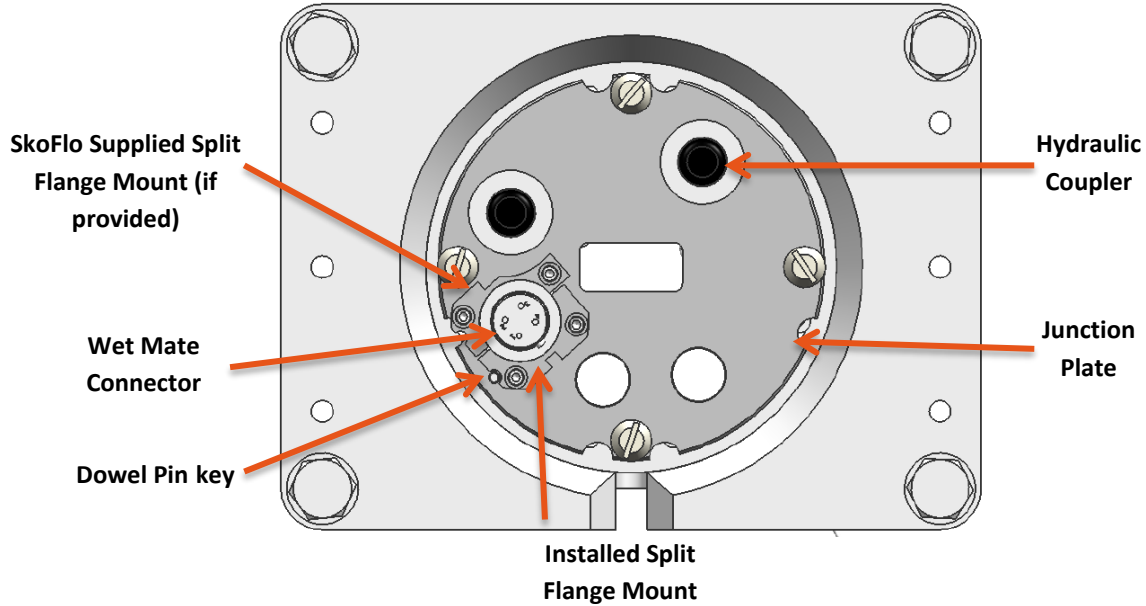

Figure 67: Wet Stab Mate Connector Installation
26.3.2 Depending on configuration requirements, the same receptacle part number may be used for both a single core and dual core CIMV. When a single core CIMV/TFU is used with a dual core configured receptacle, extra through holes in the J-plate are to be expected. Refer to Figure 67 for a pictorial example.
- 26.3.5.3.3 A dowel pin is provided on the junction plate to orient the customer supplied flange mount as shown in Figure 67.